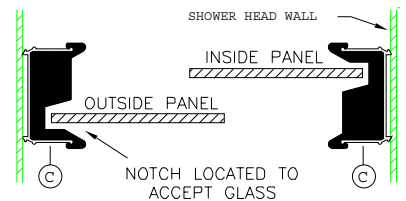

figure 6
11. Attach Panel Bumpers (F) to Wall Jamb using a 834P Installation Screw (G). Please note that notches on bumpers are positioned so as to accept glass insertion, see figure 6.